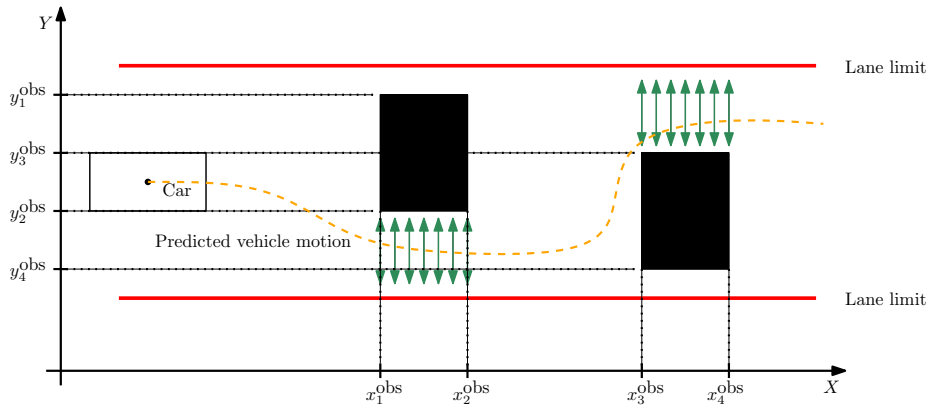

Figure 2.1: Linear obstacle constraints.
- (d) The ellipses derived as state constraints are nonlinear constraints. Again, we assume total knowledge of the environment. There are 4 rectangular obstacles with size  $6 \times 2$  m centered at coordinates  $(10, -2)$ ,  $(20, 0)$ ,  $(30, -2)$  and  $(40, 6)$ . Design linear constraints for each obstacle (see Fig. 2.1 for inspiration). For example, when  $x_1^{\text{obs}} \leq x \leq x_2^{\text{obs}}$  then  $y \leq y_2^{\text{obs}}$ .